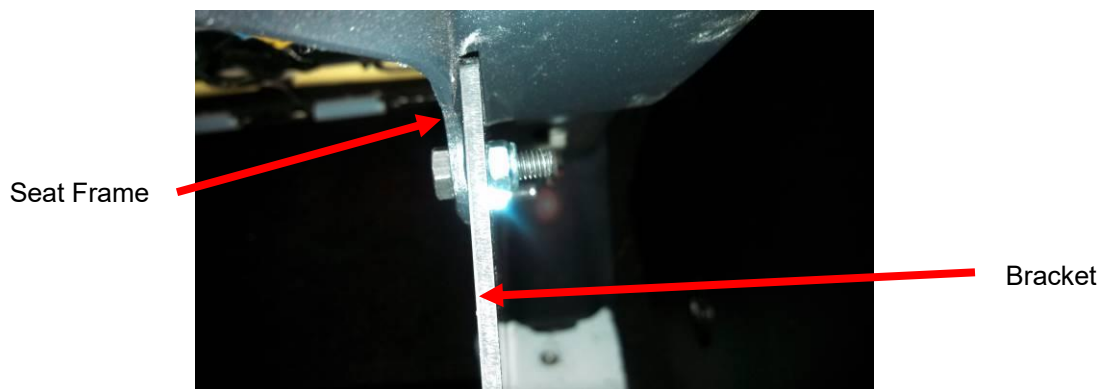

Figure 7
- 2-H) Bolt the bracket to the inside (towards center of vehicle) of the inner side seat frame rail as shown in Figure 7. It is important that the bolt and nut face in the direction shown (nut will be towards center of vehicle).